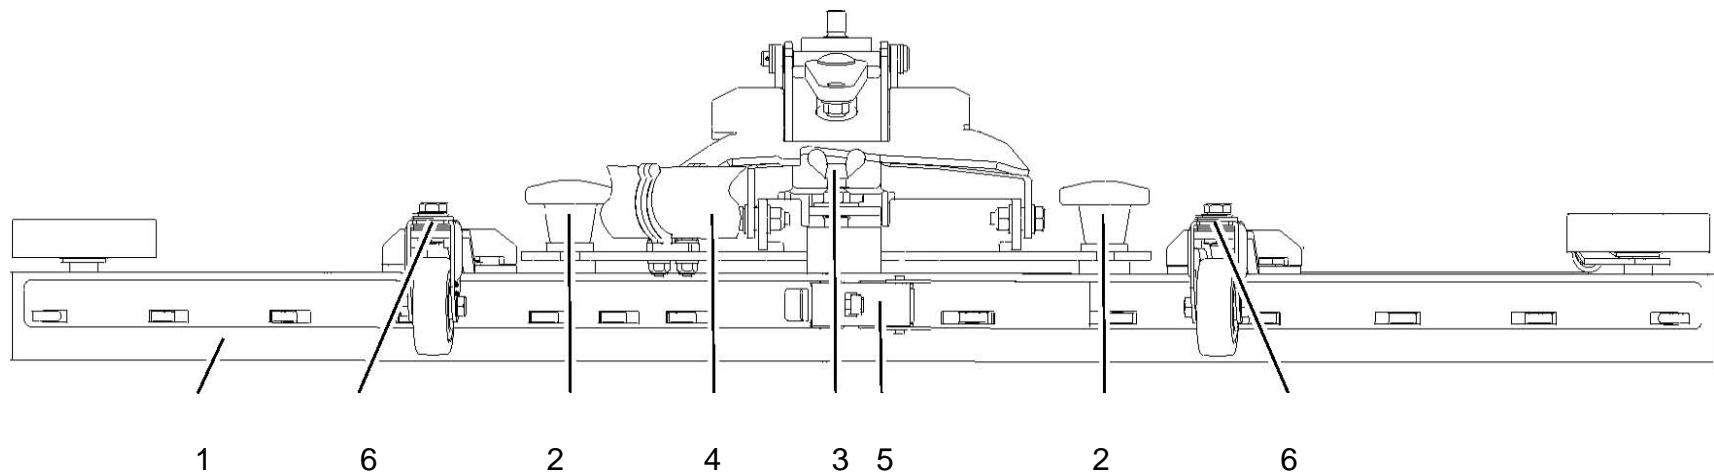

Fig.12
Check the squeegee (Fig. 12/1) daily and clean as necessary. To clean it lift up the squeegee, pull off the suction hose (Fig. 12/4), loosen the two star-shaped knobs (Fig. 12/2) and remove the squeegee.
Check the inner and outer squeegee blades on the squeegee (Fig. 12/1) weekly for signs of wear. The squeegee blades can be used fourfold by turning them.
3. Unlock the fastening device (Fig. 12/ 5) and remove the outer squeegee blade. Turn the squeegee blade or install a new one. Change the inner squeegee blade in the same way.
2. Loosen the counternut on the adjusting screw (Fig. 12/3) and adjust the squeegee using the adjusting screw so that the ends of the squeegee blades have contact with the floor. Figure A Turn the adjusting screw counterclockwise: The clearance between squeegee blade and floor is reduced in the center. Figure B Turn the screw clockwise: The clearance between squeegee blade and floor is increased in the center.